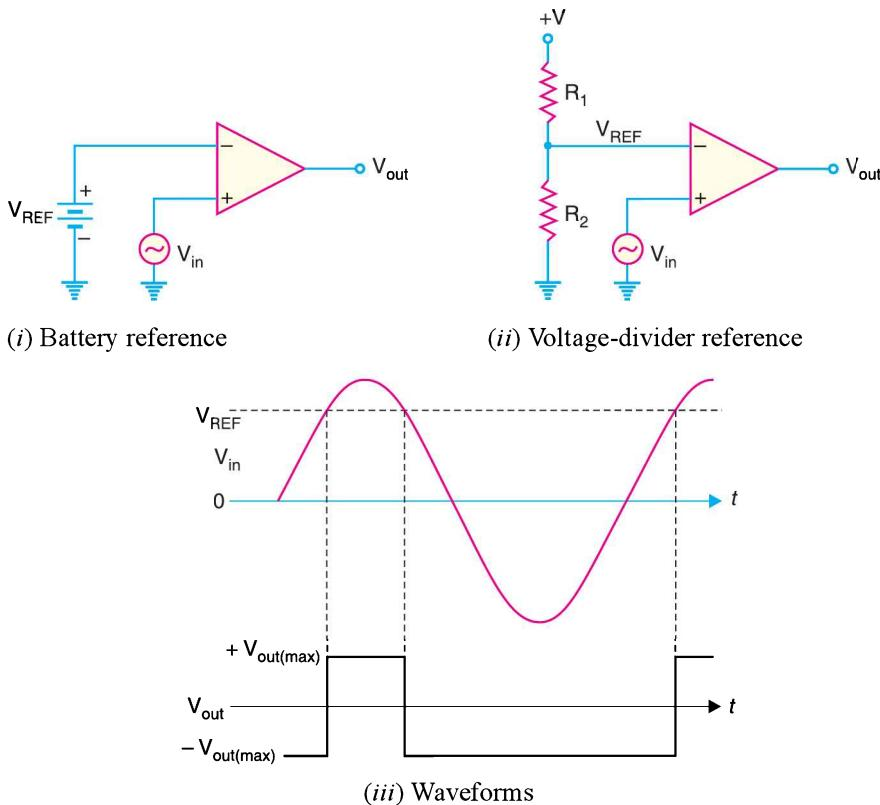

Fig. 25.96
3. As a level detector. When a comparator is used to compare a signal amplitude to a fixed d.c. level (reference voltage), the circuit is referred to as a level detector. We can modify zero-crossing detector circuit to construct level detector. This can be done by connecting a fixed reference voltage V_{REF} to the inverting input as shown in Fig. 25.96 (i). A more practical arrangement is shown in Fig. 25.96 (ii) using a voltage divider to set the reference voltage as follows :
The circuit action is as follows. Suppose the input signal v_{in} is a sine wave. When the input voltage is less than the reference voltage (*i.e.* $V_{in} < V_{REF}$), the output goes to maximum negative level. It remains here until V_{in} increases above V_{REF} . When the input voltage exceeds the reference voltage (*i.e.* $V_{in} > V_{REF}$), the output goes to its maximum positive state. It remains here until V_{in} decreases below V_{REF} . Fig. 25.96 (iii) shows the input/output waveforms. Note that this circuit is used for non zero-level detection.